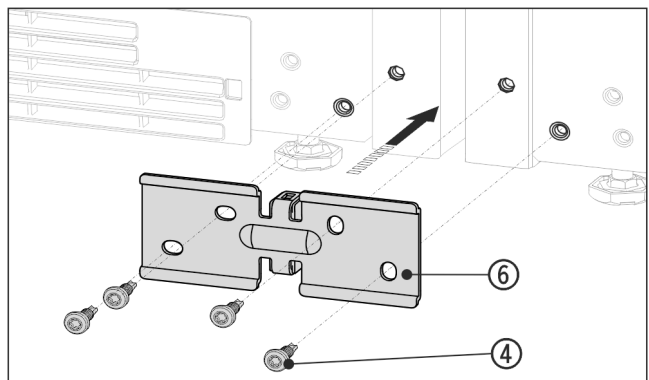

Fig. 15 Example illustration
- ▶ Slide the bracket Fig. 15 (6) with the spacer between the appliances and loosely screw on with 4 screws Fig. 15 (4).